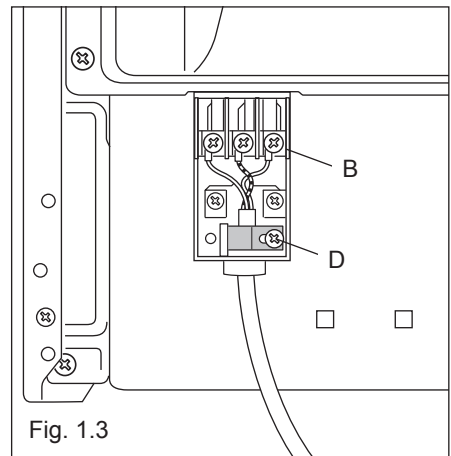

Fig. 1.3
- Unscrew cable clamp "D" (fig. 1.3).